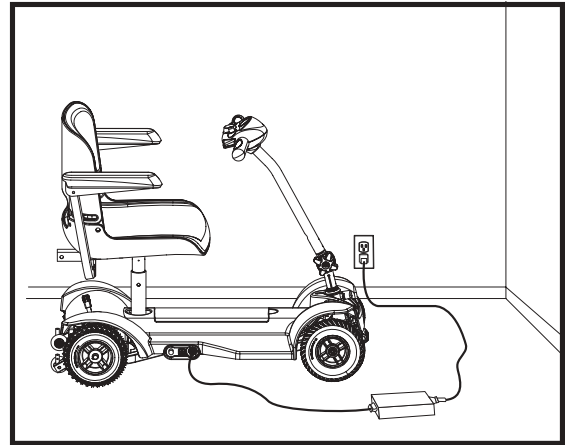

Figure 12. Charging The Batteries
1. Position your Travel Scooter close to a standard electrical outlet. **See figure 12.**